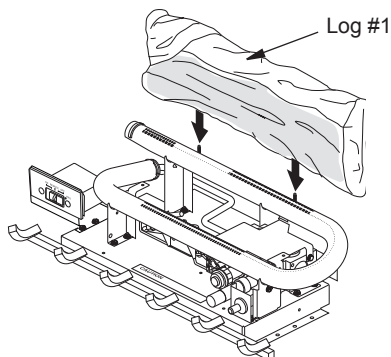

Figure 21 - Rear Log (Log #1) Placement
1. Place rear log (log #1) behind burner on the two pins on rear bracket (see Figure 21).